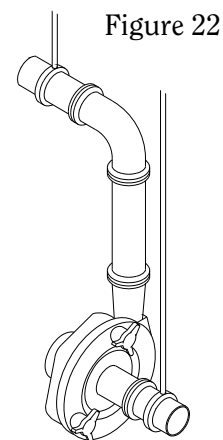

Figure 22
- Ensuring proper piping support and alignment at both the suction inlet and discharge outlet can help prevent serious damage to the blender housing (**Figure 22**).